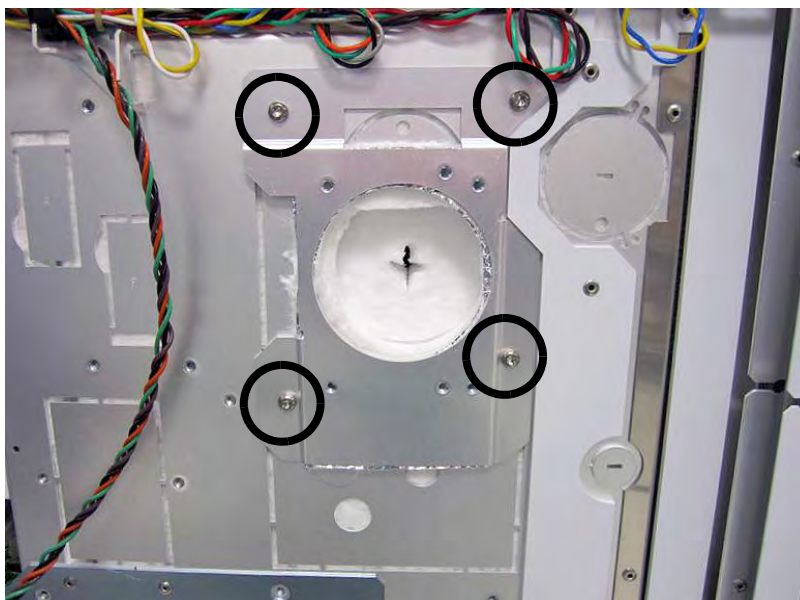

Figure 13 3rd detector adaptor plate installed using four 12 mm M4 screws
- 3 Install the 3rd detector adaptor plate to the side of the GC using four 12 mm M4 screws. See Figure 13.